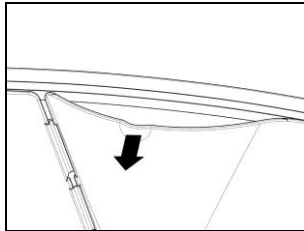

Fig. 24 B – X-903 HELMET
- On the right side of the helmet, bend the cheek pad lining and insert the battery in its housing (Fig. 24 A/B - 25).